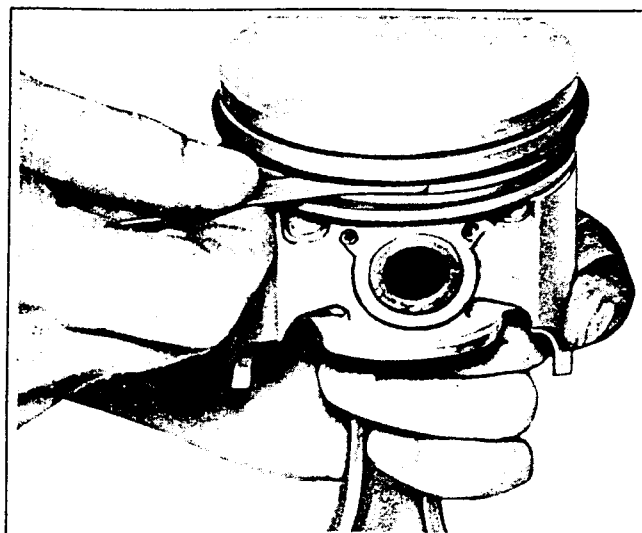

Figure 8-1-53
11. Proper clearance of the piston ring in its piston ring groove is very important in maintaining engine performance and in preventing excessive oil consumption. Therefore, when fitting new rings, the clearances between the top and bottom surfaces of the ring grooves should be inspected (see Figure 8-1-53).
12. The compression rings should be fitted so that the clearance is 0.0020" to 0.0035" (see Figure 8-1-53).